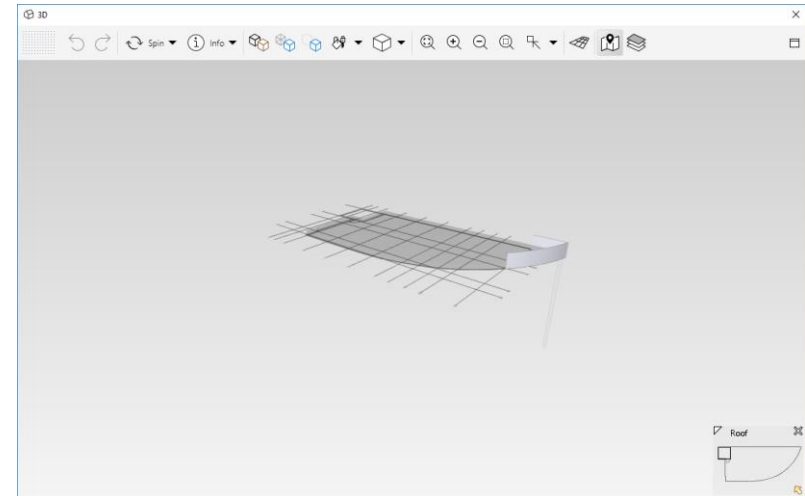

Figure 49: Components attached to issue are shown
- (8) **View components**, when you click category “*Wall Components touch below partially*”, only components attached to issues of the category, are shown in **3D View**. The footprints of the related building floors are also shown for easy visualization (see *Figure 49*), please note the adjustable **Navigation Map** at the bottom right corner.